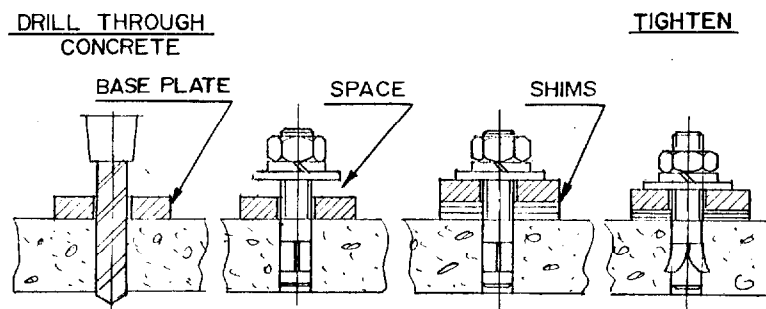

Figure 10: Anchoring
1. Using a rotary hammer drill and a ½" concrete drill bit, drill through the floor at six (6) anchor bolt locations (144" W/B), and eight (8) anchor bolt locations (172" W/B) on each of the base frames. Make sure that the ½" concrete drill is in good condition. Refer to **Figure 10**.